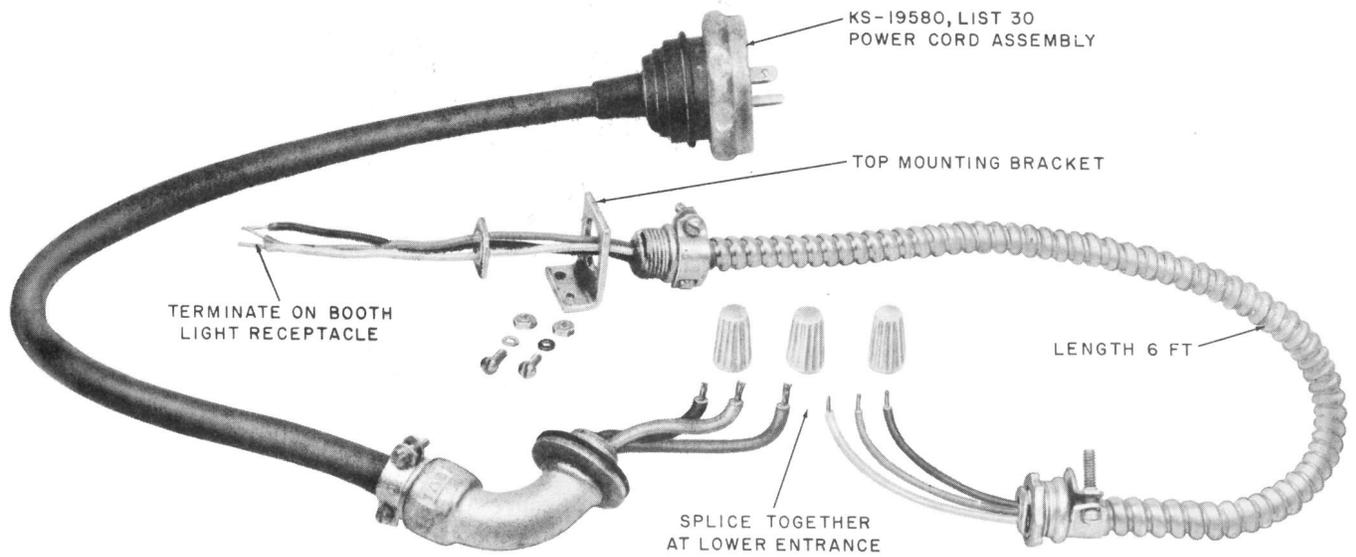

Fig. 13—KS-19580, List 31 Power Cord Group
2.26 KS-19580, List 31 power cord group (Fig. 13) is available for ground level power.